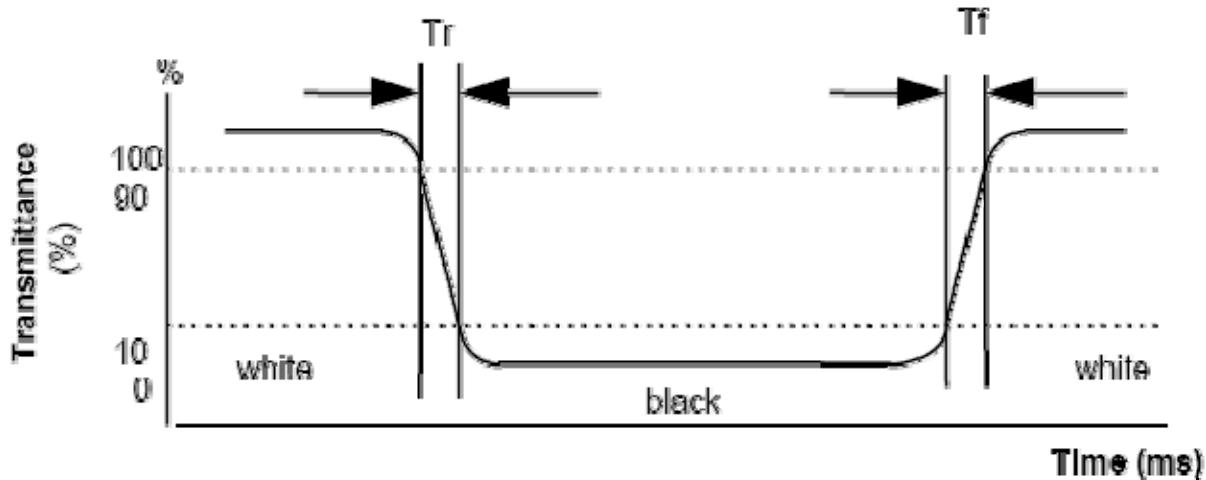

FIG. 2 The definition of Response Time
3. Response time is the time required for the display to transition from white to black (Rising Time, T_r) and from black to white (Falling Time, T_f). For additional information see FIG 2.